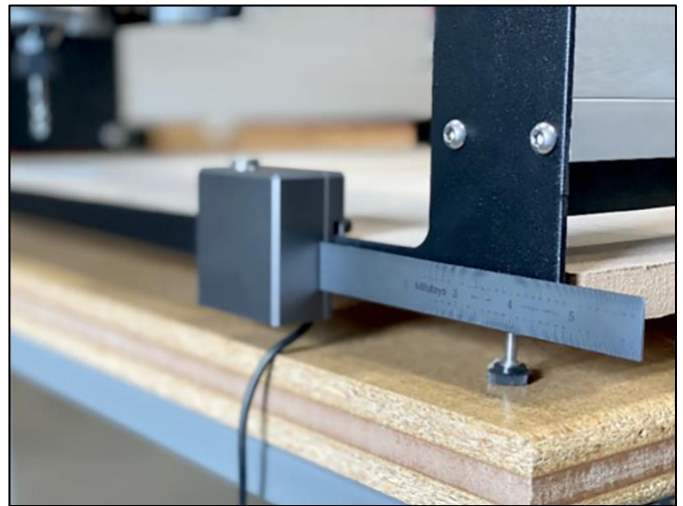

Figure 4
3. Slide the BitSetter over the edge of the front end plate, about 4.5 inches (115mm) from the right edge of the end plate See **Figure 4**.